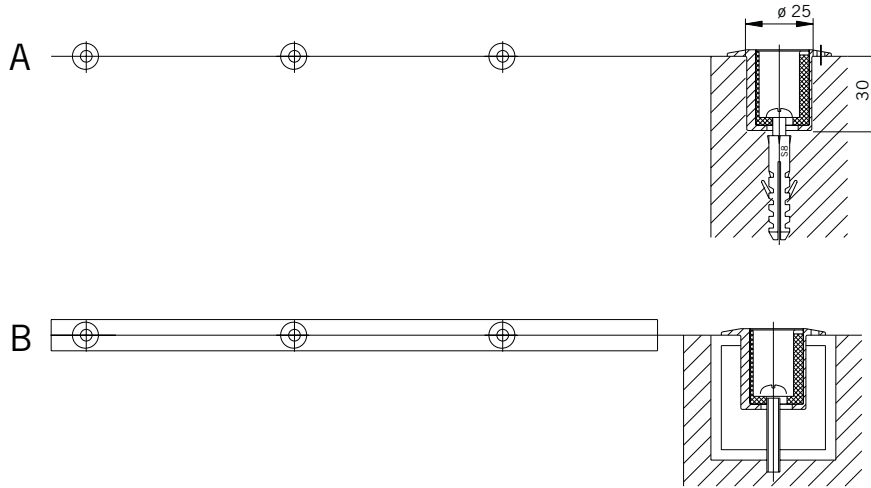

Fig. 13
- B** Eccentric socket inserted in recessed channel section (**Fig. 13**)